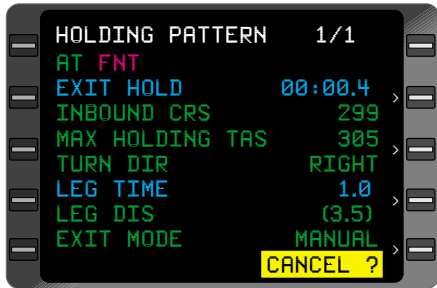

Figure 3-116
2. **ENTER** Key - DEPRESS to display **HOLDING PATTERN** Page with cursor over **CANCEL?**. (Figure 3-116)